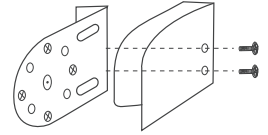

Fig. 1
- Install one of the Valance Brackets to the bracket (fig. 1).